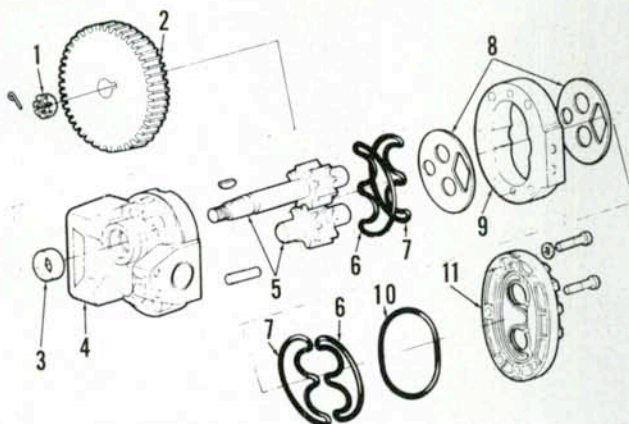

Fig. 282—Exploded view of hydraulic pump used on early production TW-35 tractors.
**201. OVERHAUL PUMP.** Hydraulic pump shown in Fig. 282 was used on early production (prior to March 1984) tractors. To disassemble pump, proceed as follows: Remove cotter pin and nut retaining pump drive gear (2), then remove gear using a suitable puller. Remove Woodruff key from pump shaft. Remove cap screws holding pump together while noting location of shorter screw. Lightly tap rear cover (11) with a soft mallet to remove cover from dowel pins. With rear cover removed, tap gear shaft with mallet to remove front cover (4). Keep components in order as removed.